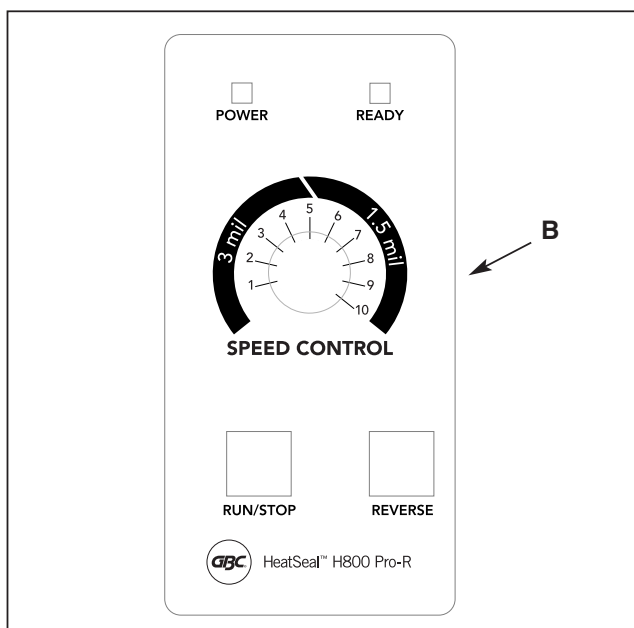

Figure 2
B. CONTROL PANEL: (Figure 2)
B. PANNEAU DE COMMANDE : (figure 2)